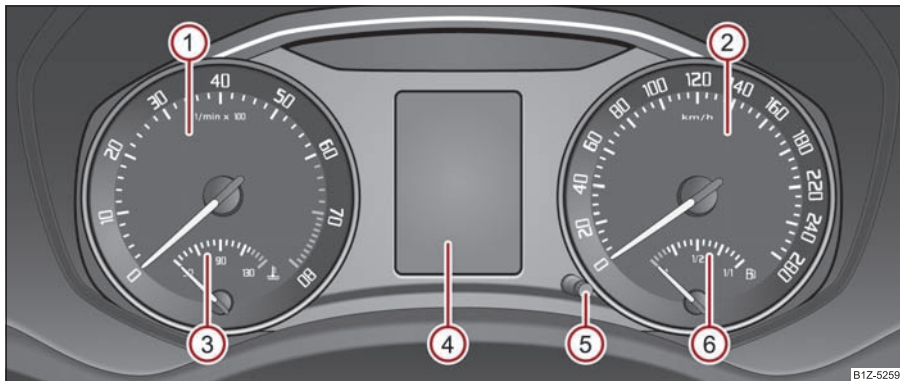

Fig. 15 Instrument cluster
The red zone of the rev counter scale ① ⇒ fig. 15 indicates the range in which the engine control unit begins to limit the engine speed. The engine control unit restricts the engine speed to a steady limit value.
The coolant temperature gauge  ⇒ page 15, fig. 15 operates only when the ignition is switched on.
The fuel gauge  ⇒ page 15, fig. 15 only operates when the ignition is switched on.
If you hold the reset button (S) ⇒ page 15, fig. 15 pressed for about 1 second, the trip counter is set back to zero.
You can use the button (S) to display the remaining distance driven and the days until the next service interval ⇒ page 15, fig. 15.
Reset the service interval displays by using the button (S) ⇒ page 15, fig. 15. ▶
You can set the time with the rotary knob (5) ⇒ page 15, fig. 15.